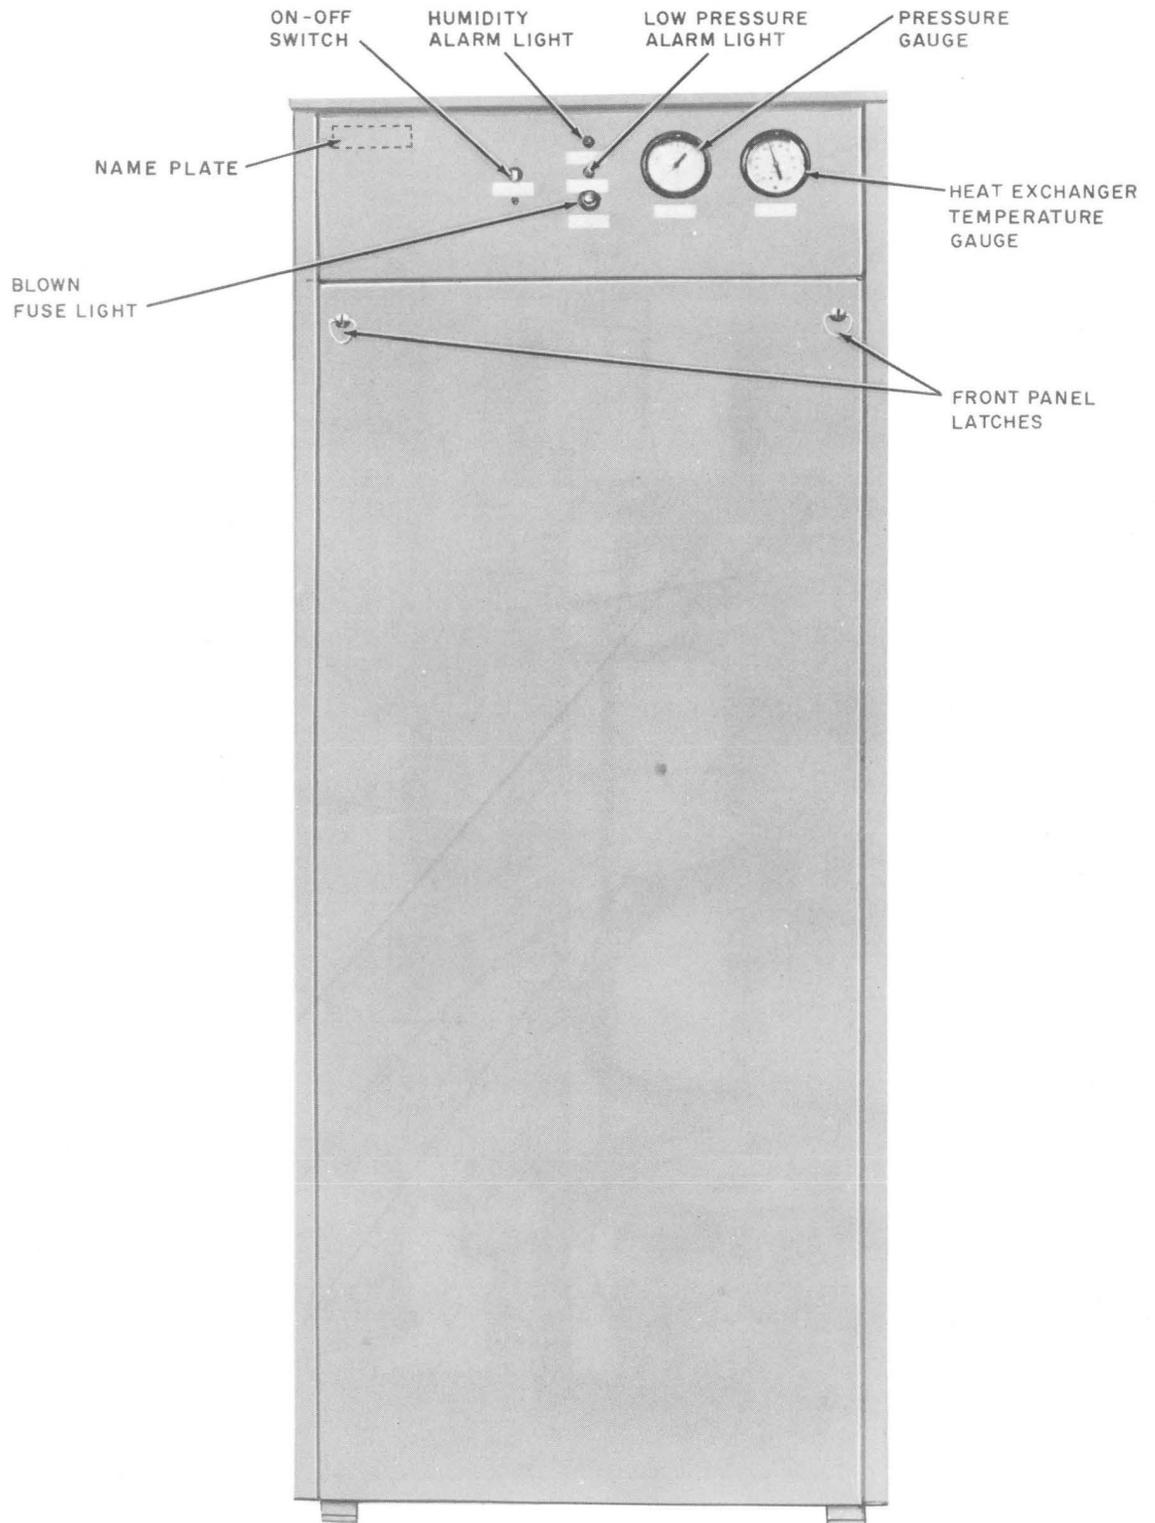

Fig. 1—KS-20183 L2 and L3 Air Dryer Cabinet
1.05 Both air dryer cabinets (L2 and L3) are approximately 60 inches high, 24 inches wide, and 15 inches deep (Fig. 1). The units weigh approximately 200 pounds.